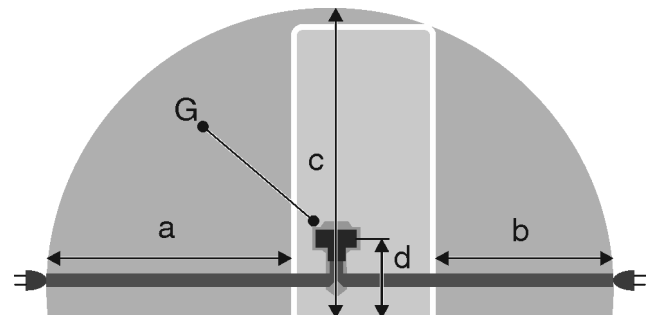

Fig. 55 Fridge/freezers / freezers / full-space BioFresh appliances*
- The socket is not located behind the appliance but in areas a or b *Fig. 55 (a, b, c)*.
- ▶ Insert the appliance plug *Fig. 55 (G)* into the back of the appliance. Ensure that they latch into place.